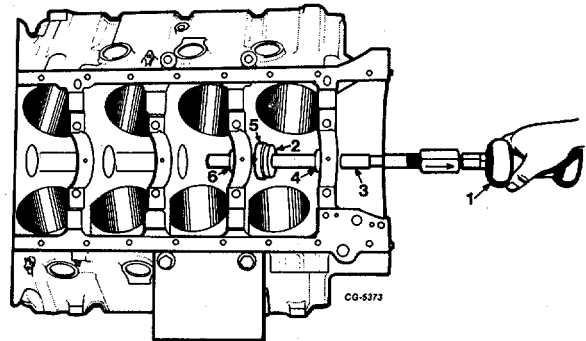

Fig. 80 Removing Second Bearing
6. Position the front adapter SE-1897-7 in the front bearing with the flange toward the front of the block, Figure 80.
7. With the second adapter still in position, install the bar through the adapters and lock the second adapter on the bar with "C" washer, Figure 80.'
8. Using the front adapter as a pilot, pull the second bearing with a slide hammer, Figure 80.